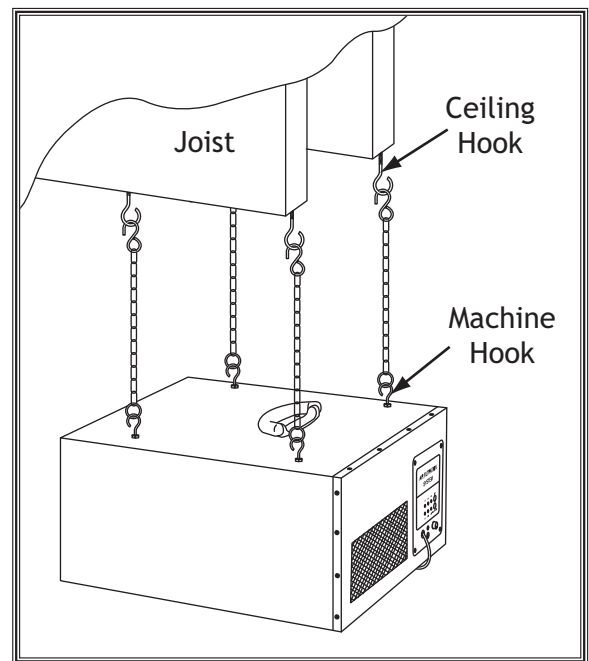

Figure 12. Air filter mounted to the joists.
3. Drill a $\frac{3}{32}$ " pilot hole into the center of the joists at the mounting locations, then fully thread the ceiling hooks into the joists (see **Figure 12**).